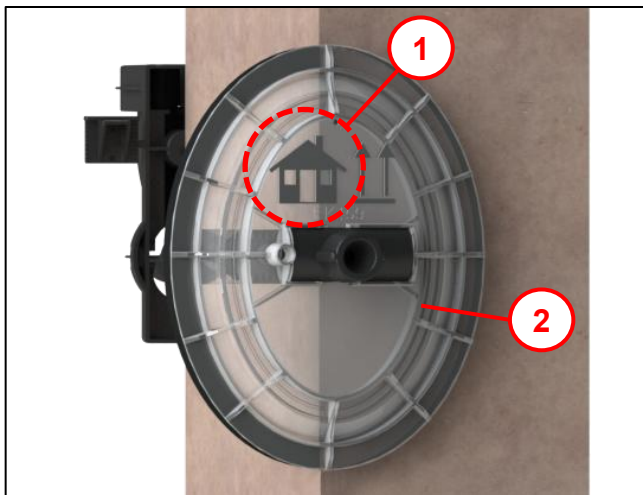

Fig. 22
- Place the foam pipe with outside flange with foam tape (1) into the core hole and insert it as far as the beginning of the snap lug (Note Fig. 22).
Continue with Fig. 22